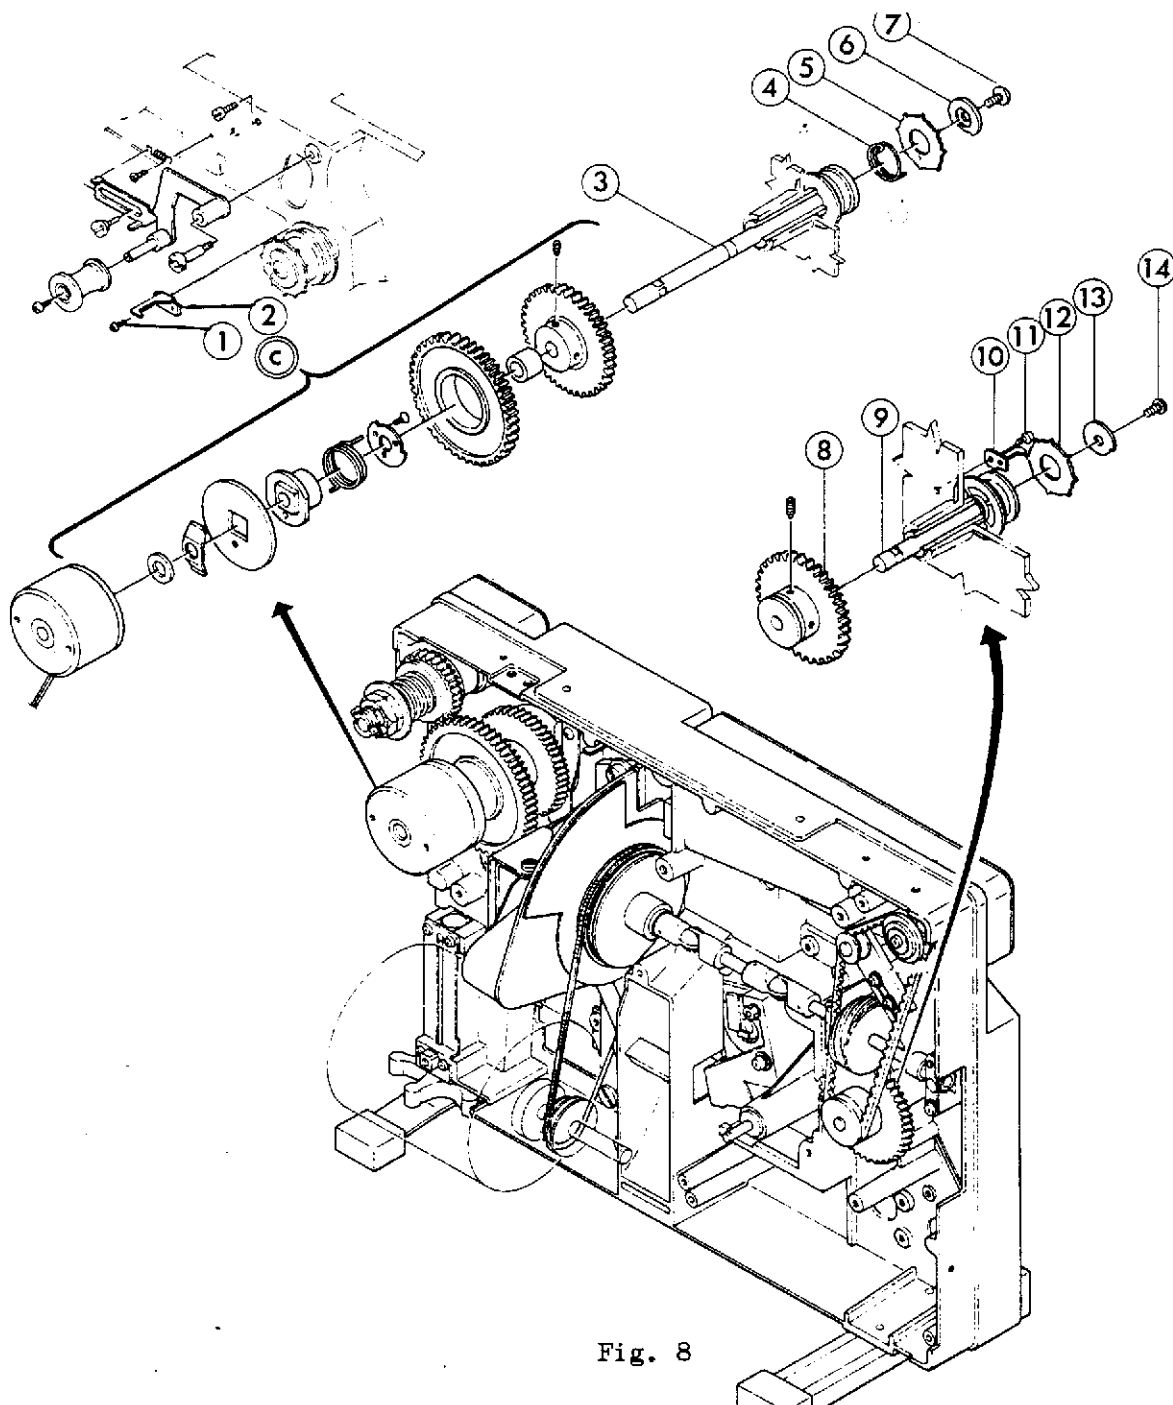

Fig. 8
- \* Remove Fig. 8-3 by detaching (c) in Fig. 8. (Refer to D-1)